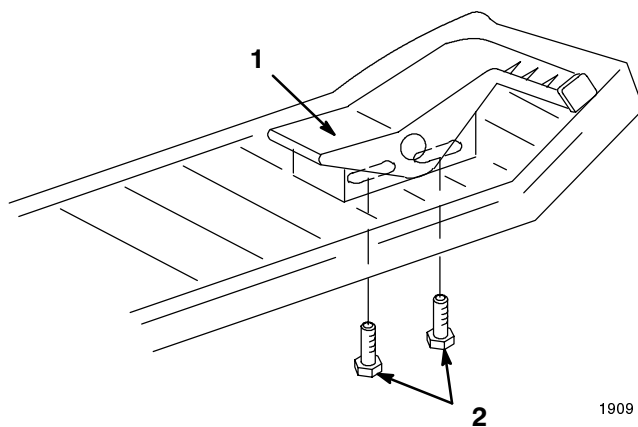

Figure 5
1. Loosen the capscrews below the right footrest. Slide the pedal in the slots away from the direction that made contact with the footrest (Fig. 5).